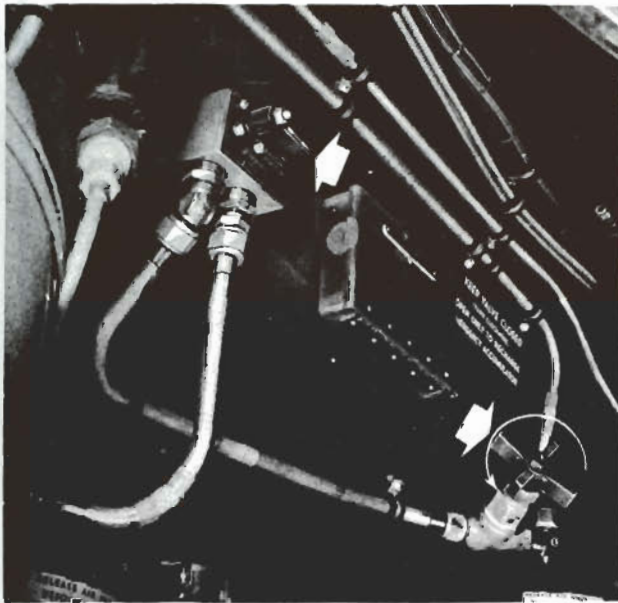

Figure 5 - Servicing Emergency Accumulator
(2) In some airplanes the hydraulic pump is controlled by an "ON-OFF" switch on the pilot's control panel. This switch must be "ON" to maintain pressure automatically.
b. EMERGENCY BRAKE SYSTEM. - A spare accumulator and auxiliary metering valves provide emergency brake operation. A red warning lamp on the pilot's instrument panel lights when pressure in the emergency system falls to approximately 700 pounds per square inch. To charge the emergency accumulator, open the manual shut-off valve. If a selective check valve is installed, place it in "SERVICING" position, unless it is lockwired in "NORMAL" position. (These units are located on the right side wall at the rear of the control cabin. See figure 5.) Build up 800 pounds pressure in the system, then return the selective check valve to "NORMAL" position and close the manual shut-off valve.